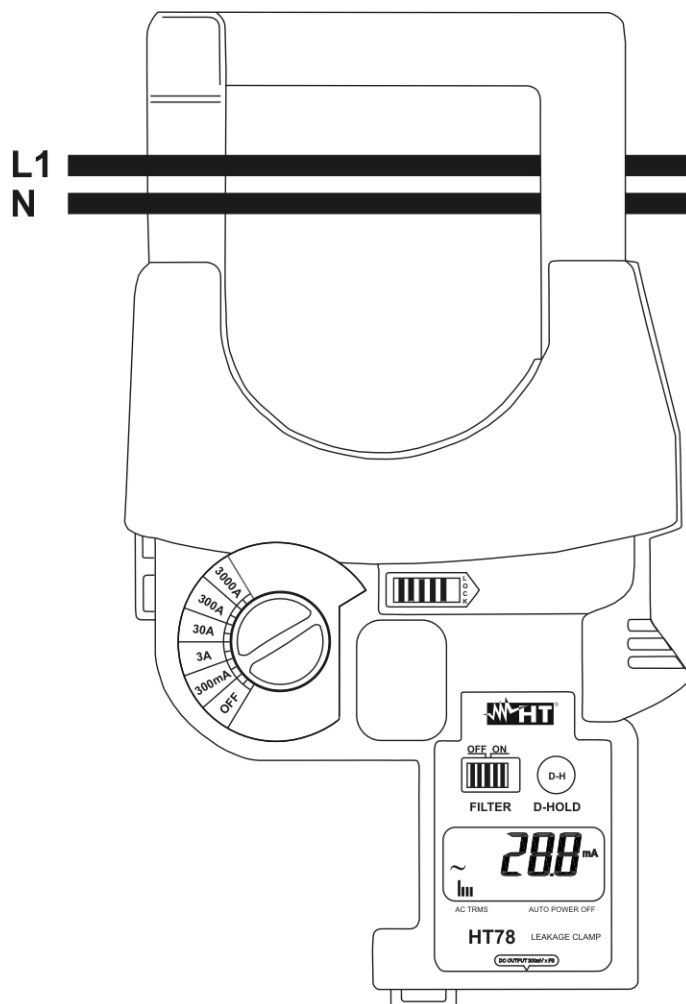

Fig. 4: Taking leakage current measurement on Single phase systems
- Fig. 4 obtaining the result as addition of instantaneous values of the currents flowing in the wires